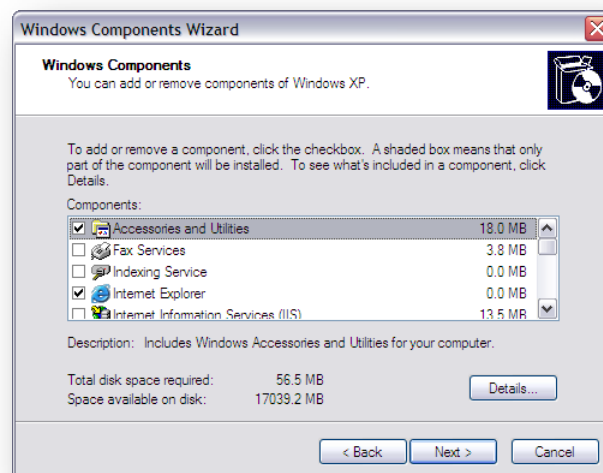

Figure 18 – Windows Components Wizard
2. Click on Add/Remove Windows Components. See Figure 18.